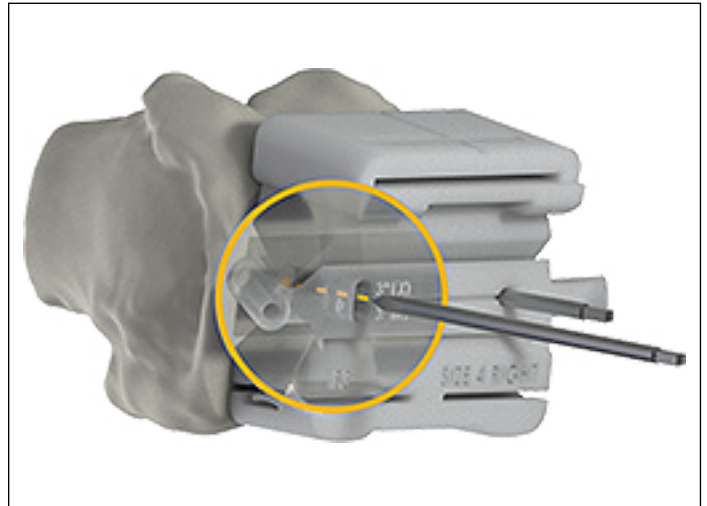

Figure 7. F3 guide with pin placement in previously prepared pin-holes
- With the F3B bushing removed, locate the lateral pin-hole through the lateral slot and place the pin in the previously prepared distal femur lateral pin-hole (**Figure 7**).